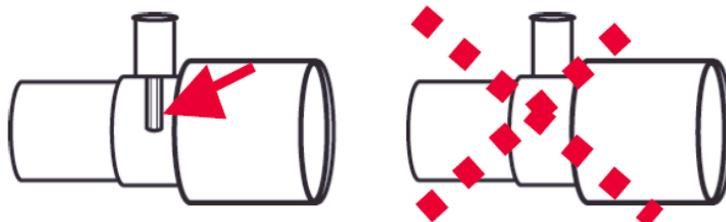

Figure 3: T-Adapter Placement
- The ISA CO₂ analyzer with Nomoline Adapter may be used with other third party sampling lines and cannulas. Please however note that the “Nomoline Family” of sampling lines are specifically designed for optimal performance and measurement fidelity when used with the ISA gas analyzers. For instance, when connecting to a respiratory circuit, the Masimo T-adapter provides a central gas sampling point thereby minimizing the risk of sampling line occlusion (Refer to Figure 3).